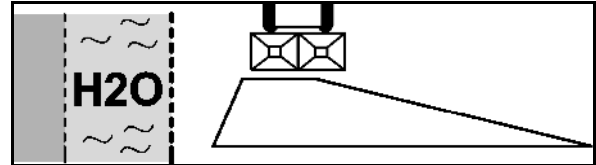

Fig. 71
Read the value to be set from the setting chart (Fig. 71).
2. Displace the boundary spread deflector on the guide bracket (Fig. 73/1) so that the pointer (Fig. 73/2) is at the value specified as per the setting chart (Fig. 71).